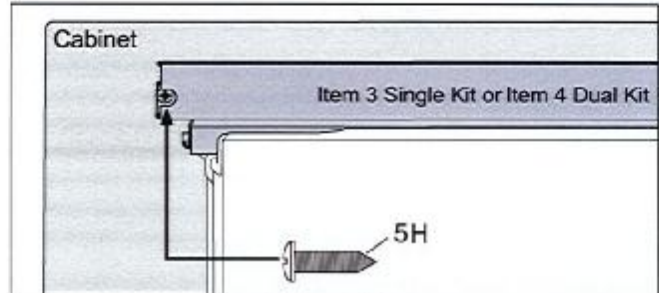

Figure 13.
- a. Slide units into place. Adjust height so top trim height reaches 75.09" (1907mm). Center units in opening and level. (See Step 12 for leveling instructions)(See Figures 13 and 14)